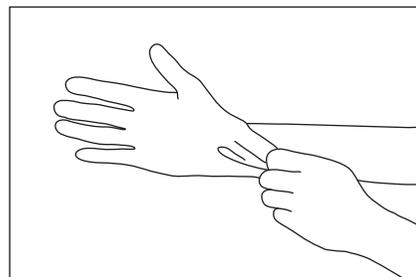

Fig.20
- 1) Always wear protective gloves, a mask, and protective goggles for safety purposes and to minimize the risk of infection. (Fig.20)